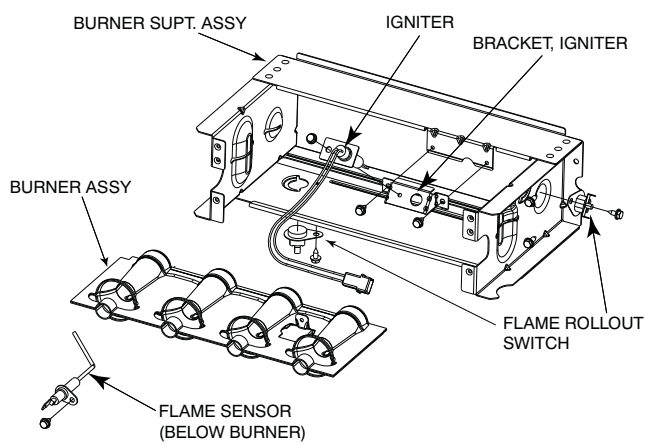

Fig. 68 – Burner Assembly
6. Remove screws attaching burner assembly to cell panel. See Fig. 68.